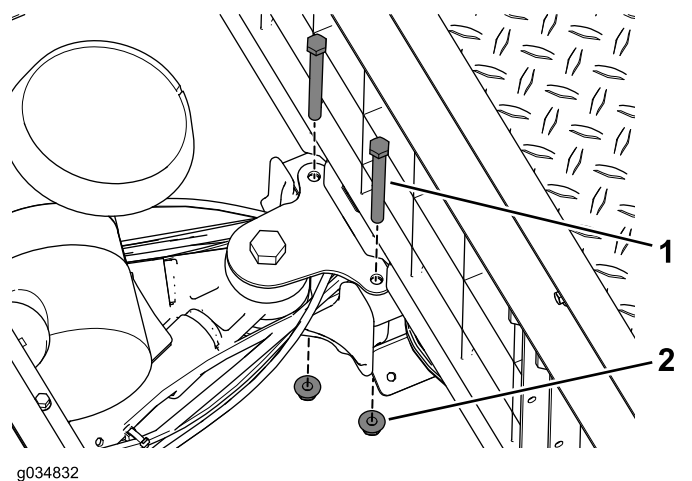

Figure 19
- Remove the bolts and flange nuts that secure the swing arm mount to the center channel (Figure 19).